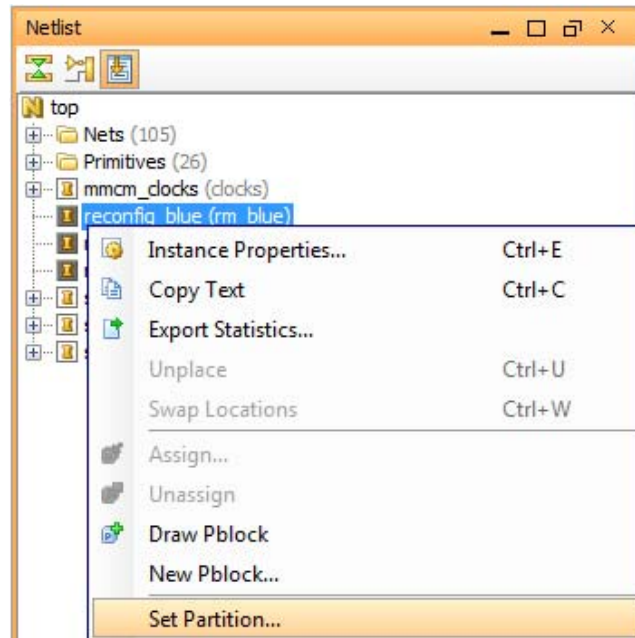

Figure 4-6: Setting a Partition as Reconfigurable
1. Select the **Set Partition** option as shown in Figure 4-6.